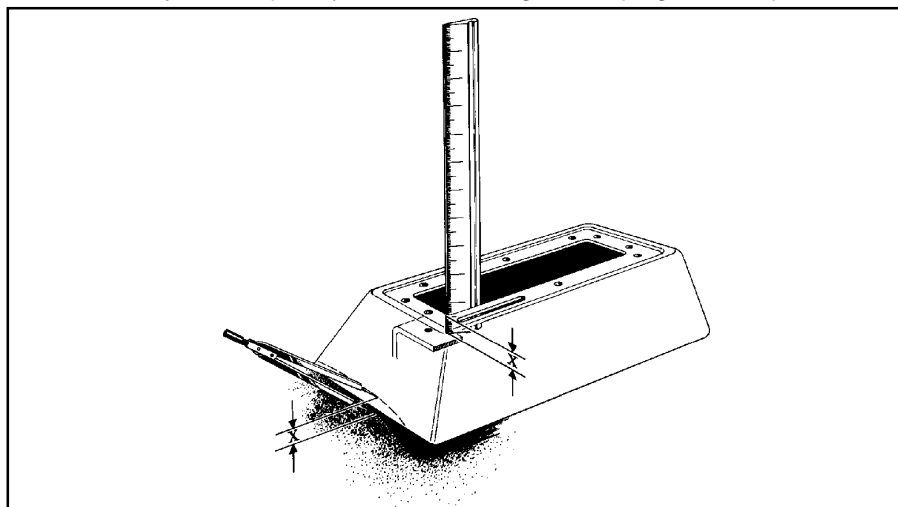

Figure 9
STEP 27. Place the tower over the shifter mechanism until the bottom edge of the tower touches the floor. Put the shifter cover and the indicator cable through the opening in the top of the tower. Hold the tower level to the shifter with the bottom of the tower touching the highest surface on the floor it will come into contact with (**See Figure 9**). Use a ruler to measure the distance X from the underside of the tower to the tower mounting brackets on the shifter mechanism.
while the other touches the tower (**See Figure 9**). Using the dividers, scribe a line around the tower that follows the contour of the floorboard. Remove the tower and trim at the scribe line using tin snips. Once the tower is properly trimmed, install it using two flat head sheet metal screws. The indicator cable should be routed out the top of the tower on the right side while the tower is being installed.